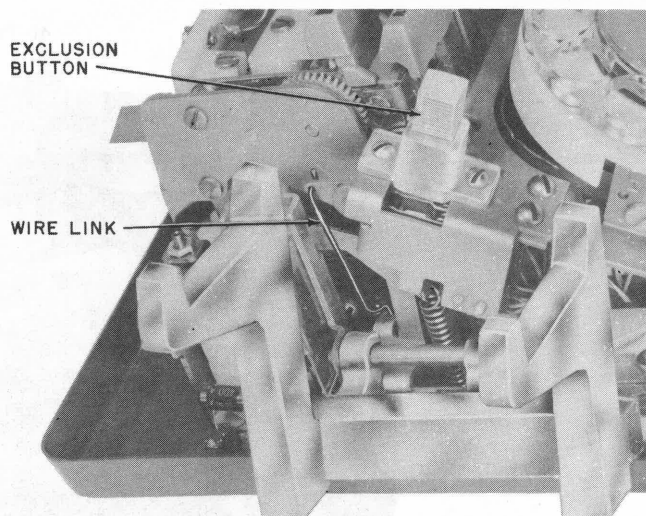
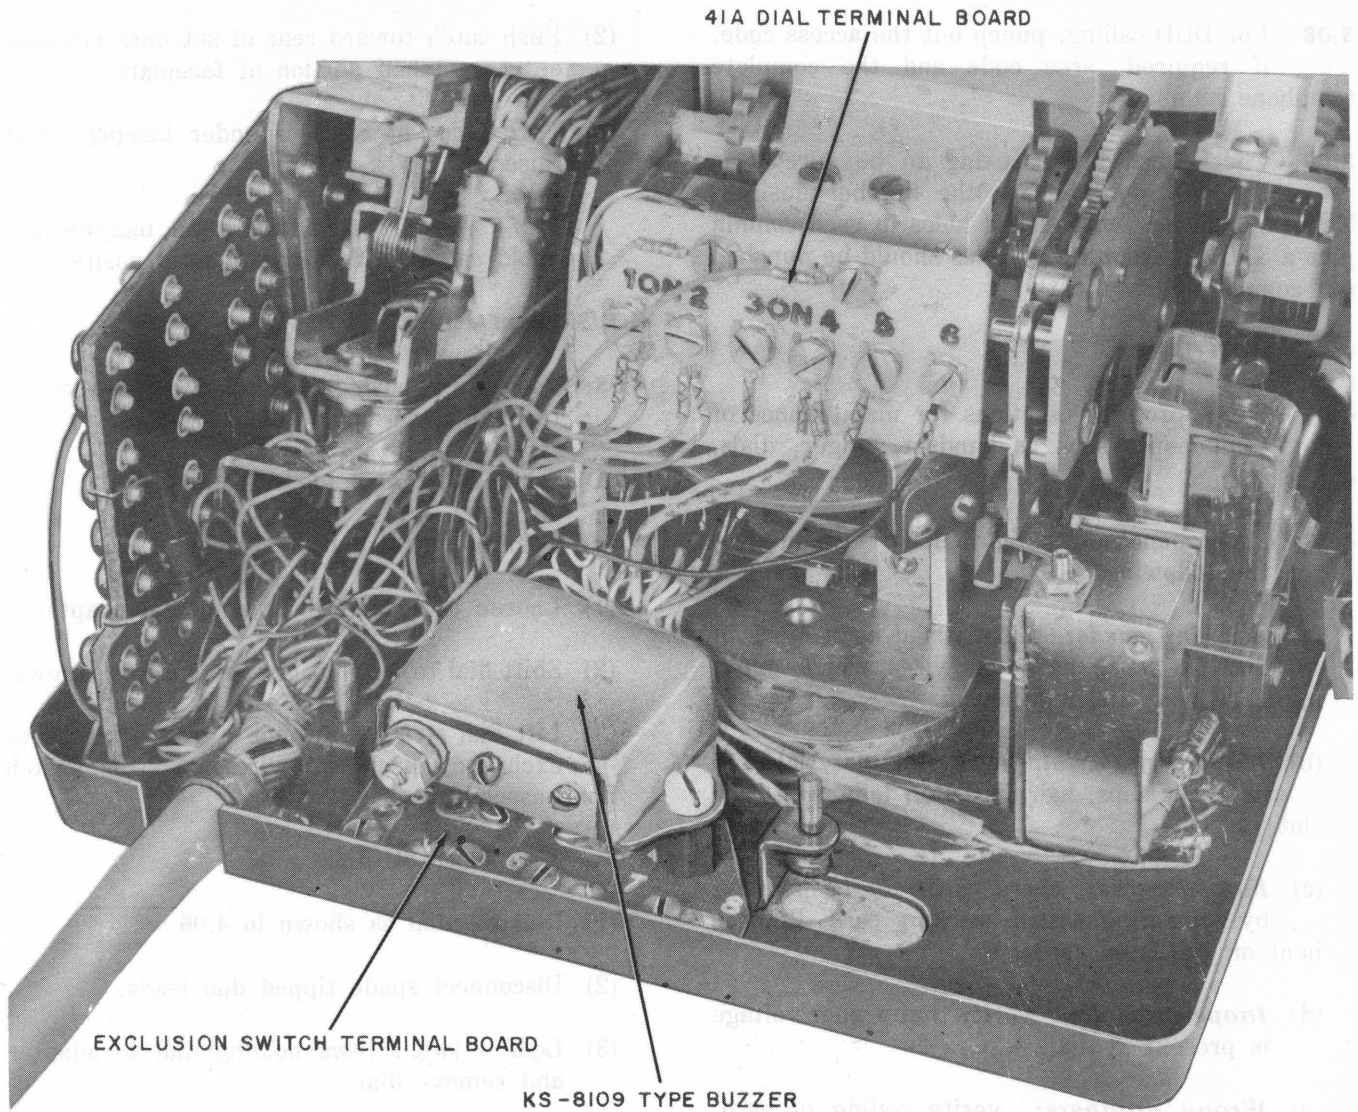

Fig. 6—Exclusion Switch Assembly
Fig. 7—Location of Buzzer and Exclusion Terminal Board in 662-Type Telephone Set
- (1) Remove faceplate and housing.
- (2) Connect wire link to exclusion switch assembly. The wire link has two 90 degree bends at each end. Insert short end of link into hole provided at rear of switch assembly (Fig. 6).
- (3) Mount switch assembly to dial adapter, making sure that the wire link enters hole provided in arm of switch hook. Secure assembly with screws provided.
- (4) Dress wiring from exclusion switch so that terminal board is located at rear of set (Fig. 7).
- (5) If buzzer is not provided, fasten terminal board to base with nylon screws and washers furnished with set. Place one washer between terminal board and base.
- (6) If buzzer is provided, make connections to exclusion terminal board before fastening to base. Mount buzzer above terminal board with insulating spacers between buzzer and terminal board to prevent electrical interference (Fig. 7).
- (7) Make connections to exclusion terminal board as shown in Section 502-660-402.
- (8) Reinstall housing and replace faceplate with one supplied in kit of parts.
- (9) Check for proper operation of set and exclusion feature.
- (1) Remove dial as shown in 4.06.
- (2) Disconnect spade tipped dial leads.
- (3) Loosen two screws holding dial to adapter and remove dial.
- (4) Secure replacement dial on adapter making sure that dial is properly positioned.
- (5) Connect dial leads.
- (6) On sets with exclusion, start wire link from exclusion switch into hole on switch hook assembly (Fig. 6).
- (7) Slide slots of dial adapter under dial mounting screws.
- (8) Move dial to right as far as possible and tighten screws.
- (9) Check operation of 8C dial and exclusion switch, if provided.
- (1) Temporarily disconnect 18-volt ac power supply to dial.
- (2) Disconnect wiring from terminal strip on rear of dial (Fig. 7).
- (3) Turn set on side and remove three screws holding dial to baseplate. Dial can now be removed.
- (4) Place new dial in position taking care not to pinch any wiring between dial and baseplate.
- (5) Fasten dial to baseplate with three mounting screws.
- (6) Reterminate leads to dial on terminal strip.
- (7) Reconnect power supply.
- (8) Using properly coded card, check operation of the dial.